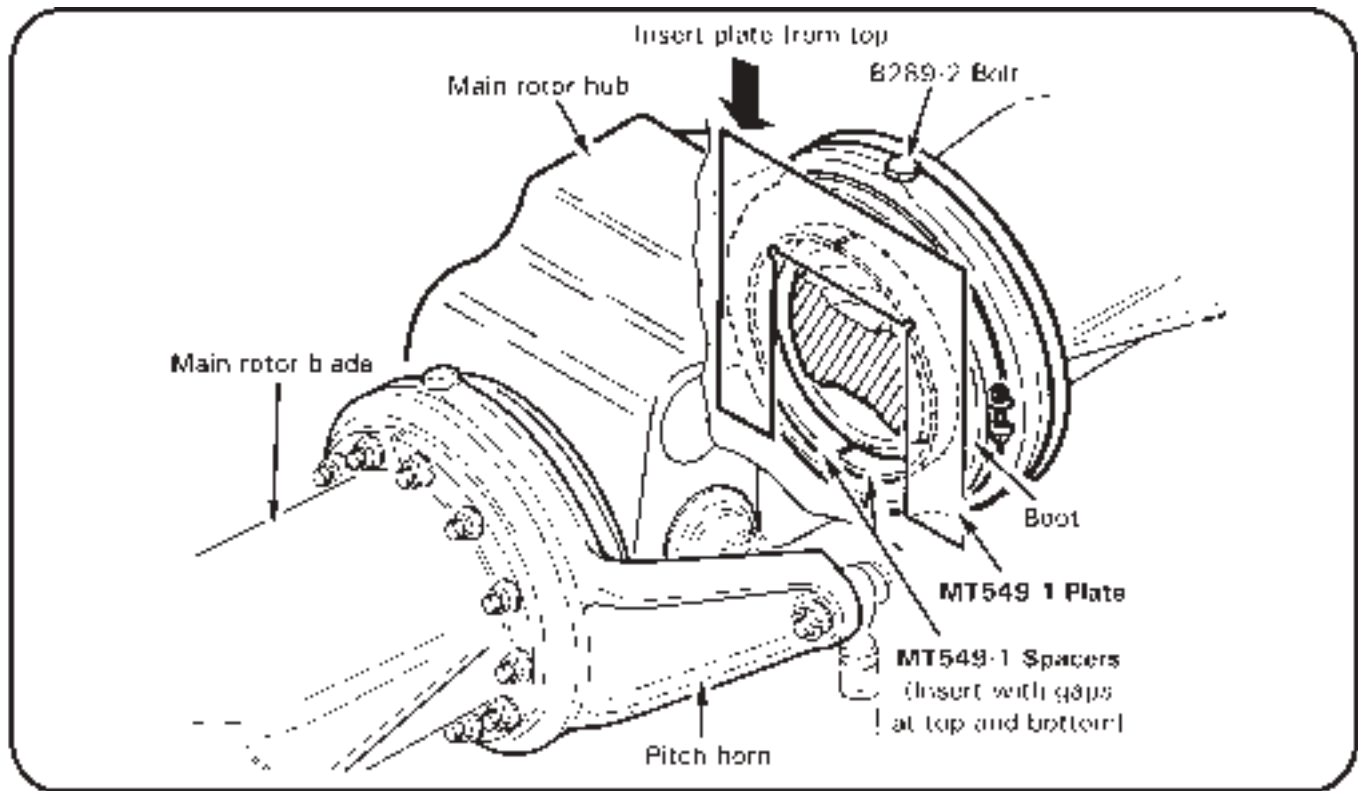

FIGURE 9-3 ADJUSTING BOOT CLEARANCE
13. Refer to Figure 9-3. Insert two MT549-1 spacers between hub and blade boot with gaps at top and bottom. Spacers should fit in recess of boot. Hold spacers in place against boot and insert MT549-2 plate from top between hub and spacers. Push plate down until it contacts spindle.